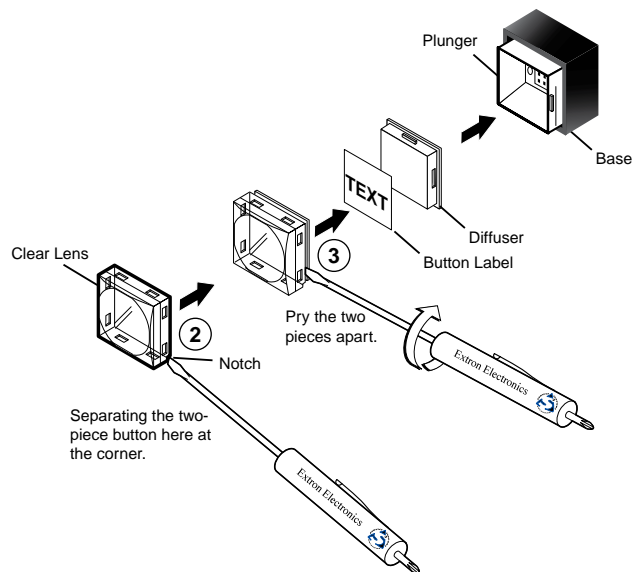

Figure 103. Replacing a Button Label
1. Remove the button assembly by inserting a small, flat-bladed screwdriver, such as an Extron Tweaker, between the button base and the diffuser to gently pry the button assembly off the button plunger, as shown in figure 103.
2. Locate the small corner notch on the clear lens cap, and slide the screwdriver between the lens cap and the diffuser (see ② in figure 103).
3. Using a rotating motion of the screwdriver, carefully pry the two pieces apart (see ③ in figure 103).